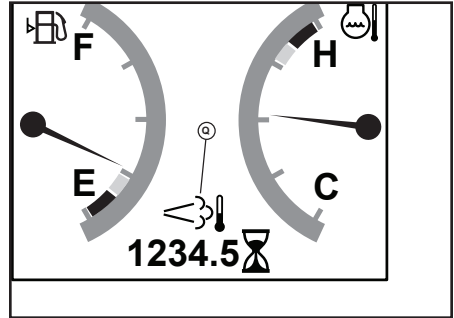

Fig. 46 - Reset Regeneration In Progress
When reset regeneration occurs, the DPF in-progress (elevated temperature) symbol (Q, Fig. 46) displays on the screen.
**NOTE:** DPF in-progress (elevated temperature) symbol (Q, Fig. 46) will not be displayed when reset regeneration is inhibited.